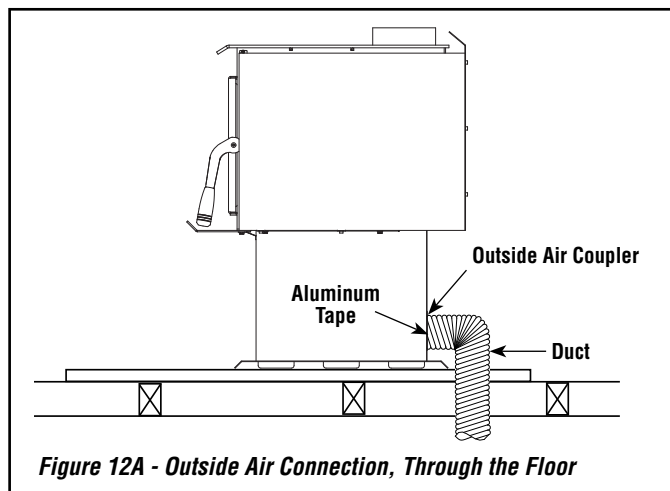

Figure 12A - Outside Air Connection, Through the Floor
- Attach the duct to the coupler on stove (see **Figures 12A and 12B**). Using the aluminium tape provided, wrap the tape around the joint between the flexible duct and the air inlet.